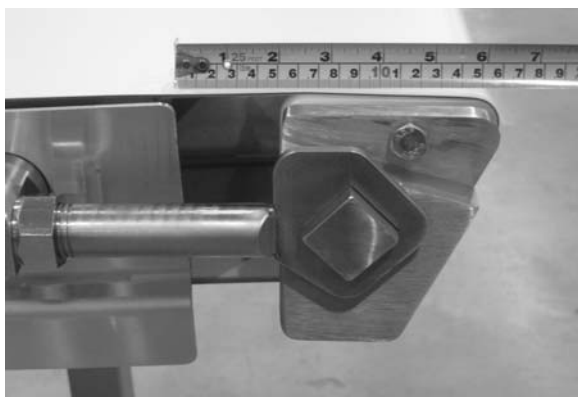
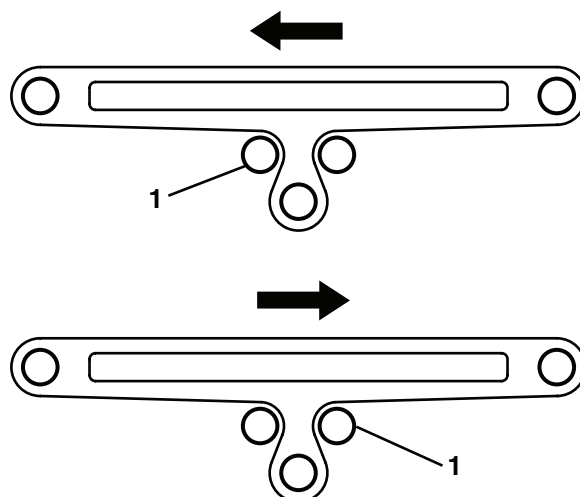

Figure 49
Figure 52
When installing a new belt, set conveyor tracking elements to the “zero position” and start the tracking procedure. The zero position is when the tails are tensioned out to the 6” dimension as shown in (**Figure 49**, and the infeed tension roller (**Figure 52, item 1**) on the center drive assembly is set to its outermost position (roller away from center of box, against guard).
Tracking of belt through the center drive is done by adjusting the position of the infed roller (**Figure 52, item 1**) on the center drive assembly.